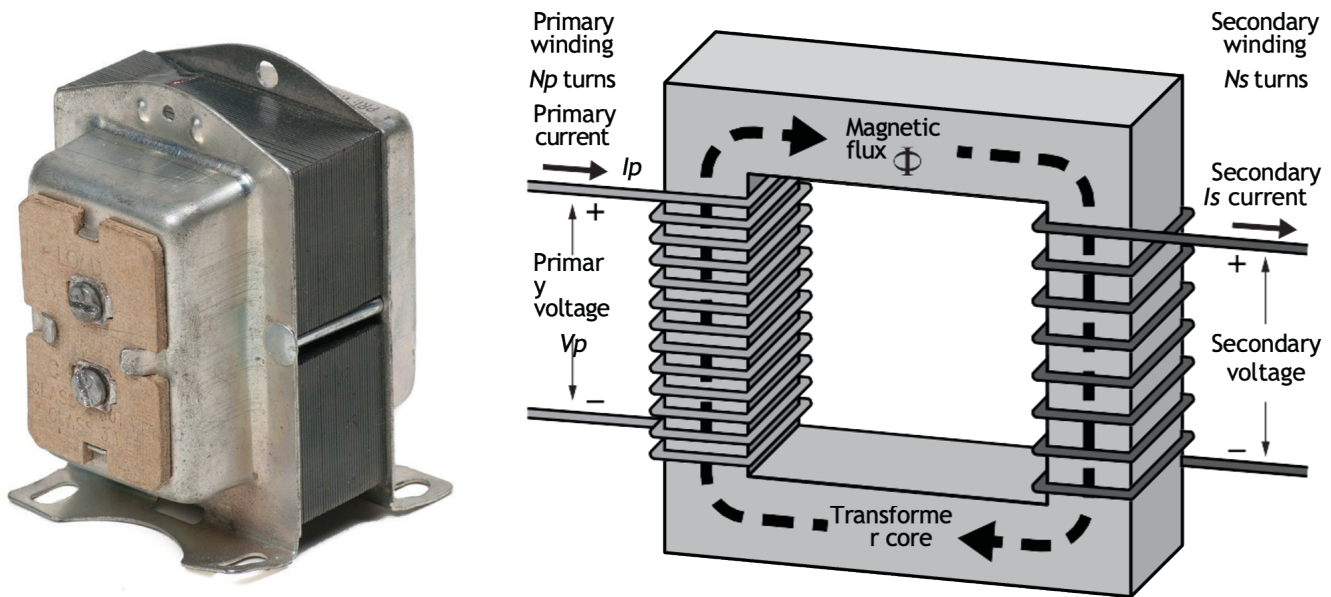

Figure 28 Step-down transformer (BC Industry Training Authority, 2019). CC BY-NC-SA 4.0
A *transformer* is an electrical device used to change alternating current (AC) voltage to either a higher or lower level. Transformers only work with AC because they rely on a changing magnetic field. If a transformer changes 120 VAC to 24 VAC, it is called a **step-down transformer** (Figure 28). If it increases voltage (for example, from 120 VAC to 12,000 VAC), it is called a **step-up transformer**. An **isolation transformer** does not change voltage but provides protection from electrical